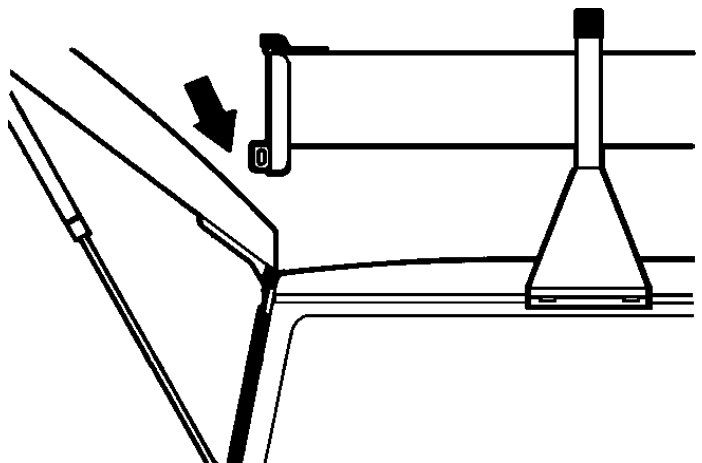

Figure 7. Mini Van Door Clearance
6. Place the assembled unit on the vehicle roof rack, positioning as shown in Figure 7., and allowing for rear door swing-up when installed on some mini vans.